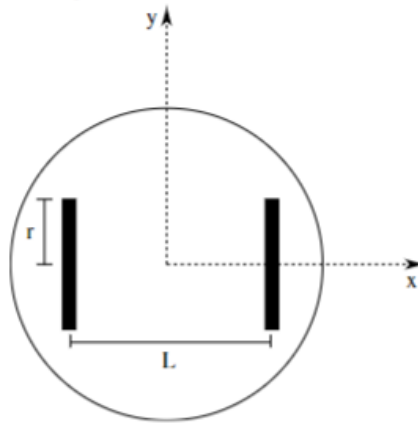

Figure 1: Indoor Vacuum Robot
3. Figure 1 shows an indoor vacuum robot has a differential drive chassis with two wheels, each with a radius of r , that are separated by a distance L .